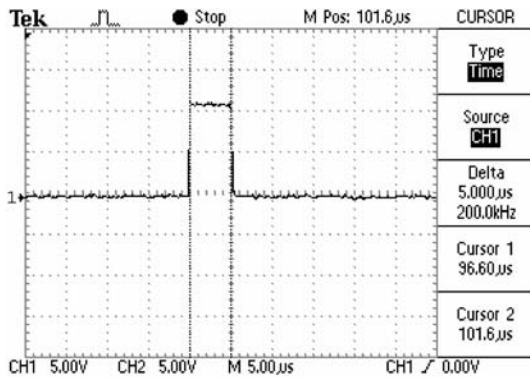

Figure 4-33 Expected Soft-Start Output Pulse Width
11. Verify from the scope that the pulse width is 5 μ s, as shown in Figure 4-33.